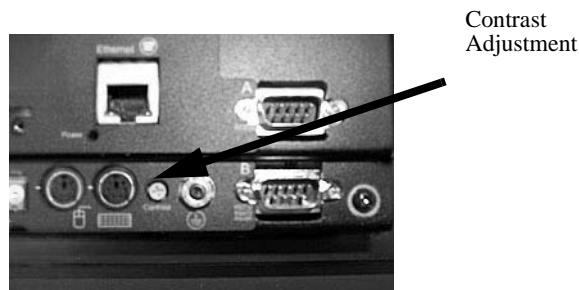

Figure 4-4 Contrast Adjustment
1. Find the contrast adjustment on the back of the PowerStation. See *Figure 4-4*.